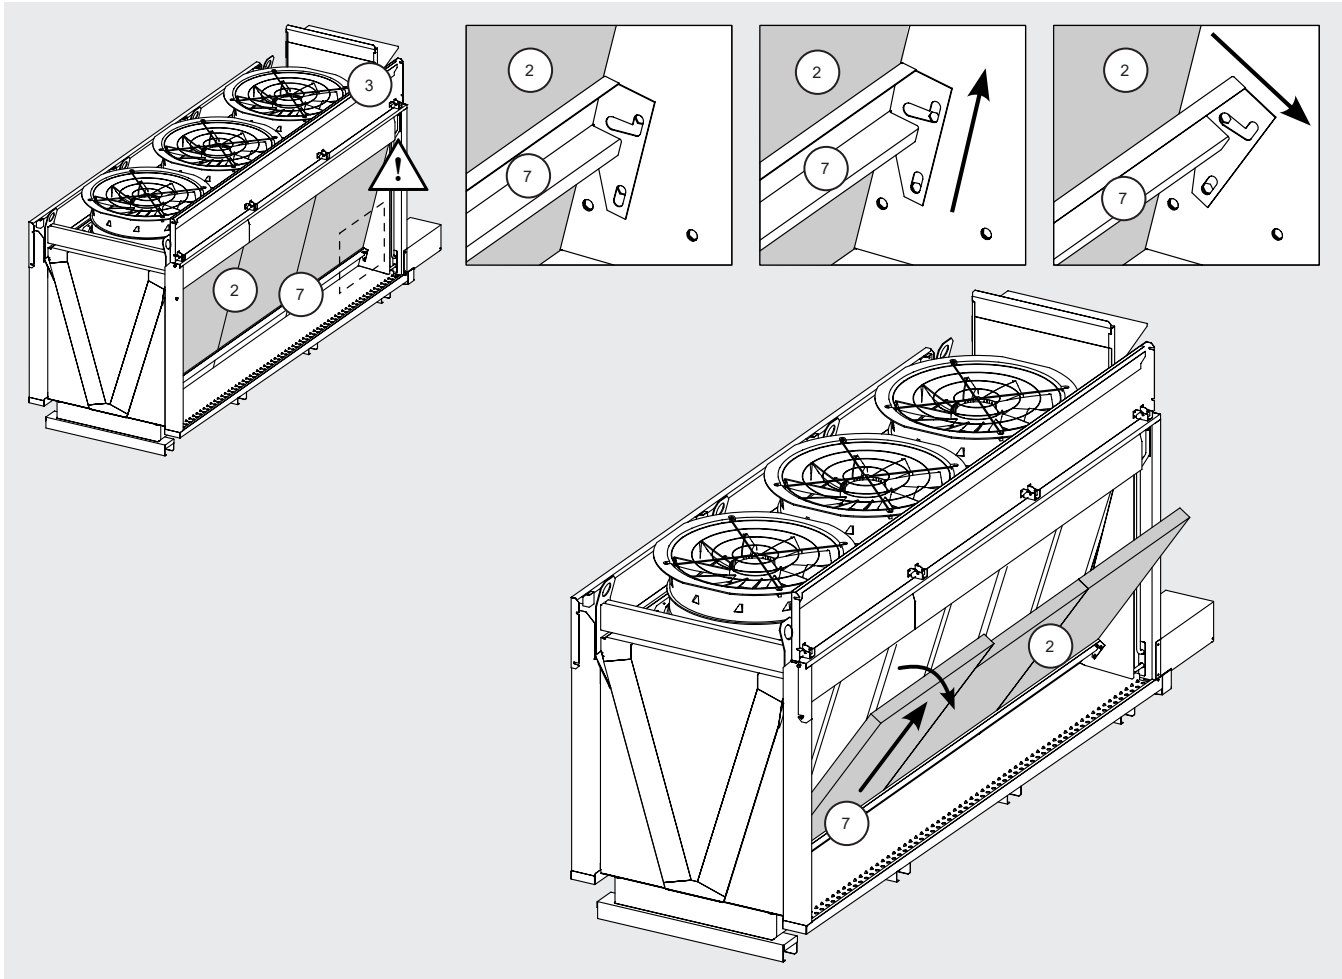

Figure 21
- 12.9.16 Pull the cross bar (7) upwards and then outwards, making it rotate. Pay attention: this will cause the cardboard panel (2) to tilt. See Figure 21.